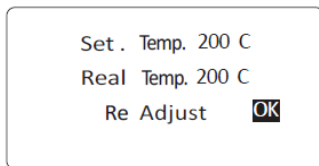

Fig.3
6.1 In the function setting menu, move cursor to the “Cal. Status.” mode then press the knob. Move cursor to the “Real Temp”, input the real temperature, move cursor to the “OK” (see fig 3) then press knob confirm it. Press knob to the next menu, choose the “Save & Exit” save the temperature and exit menu.